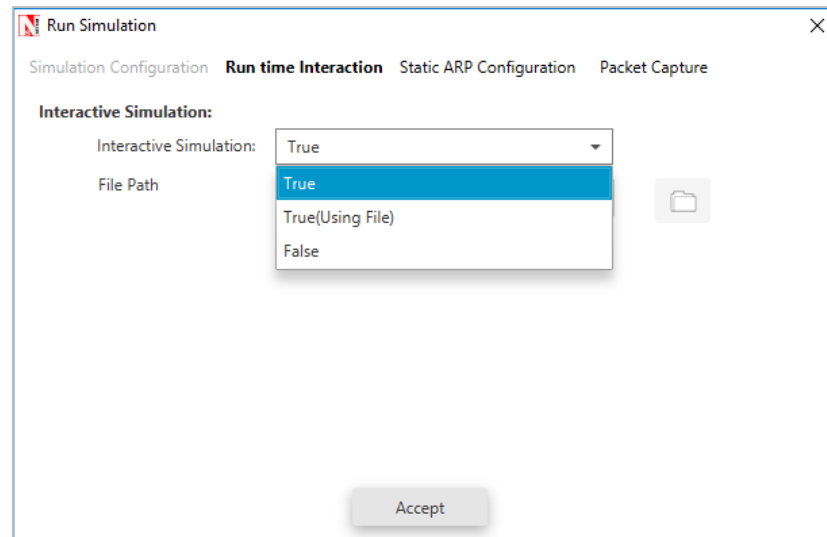

Figure 3-36: Run time Interaction tab set Interactive Simulation as True
- Click on run simulation option and In the Run time Interaction tab set Interactive Simulation as True and click on Accept as shown below Figure 3-36.